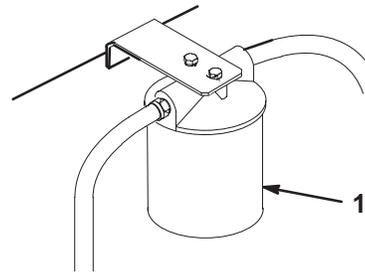

Figure 41
- Place a drain pan under filter, remove the old filter and wipe the filter adapter gasket surface clean (Fig. 41).